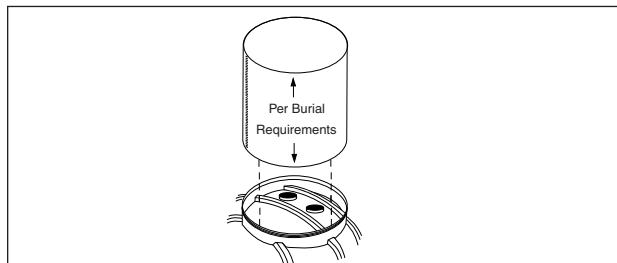

FIGURE 16-3
16.2.1. The burial depth of the tank determines the length of the containment sump body. (See FIGURE 16-3.)